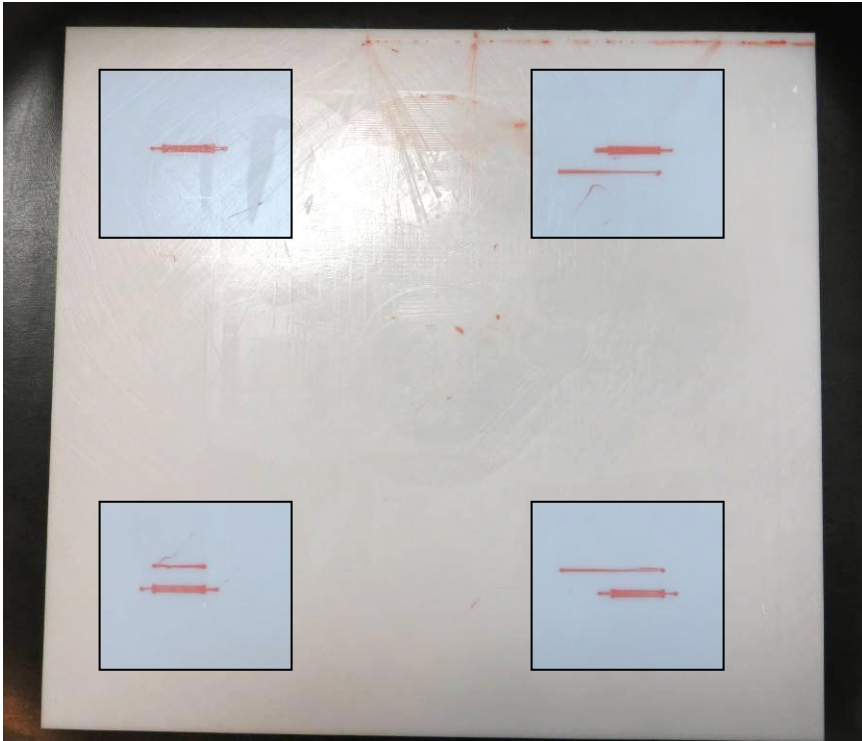

Figure 4. Areas for Magic Glue
2. Add thin film of Magic Glue to each corner as shown in Figure 4 in $\sim 50\text{mm}^2$